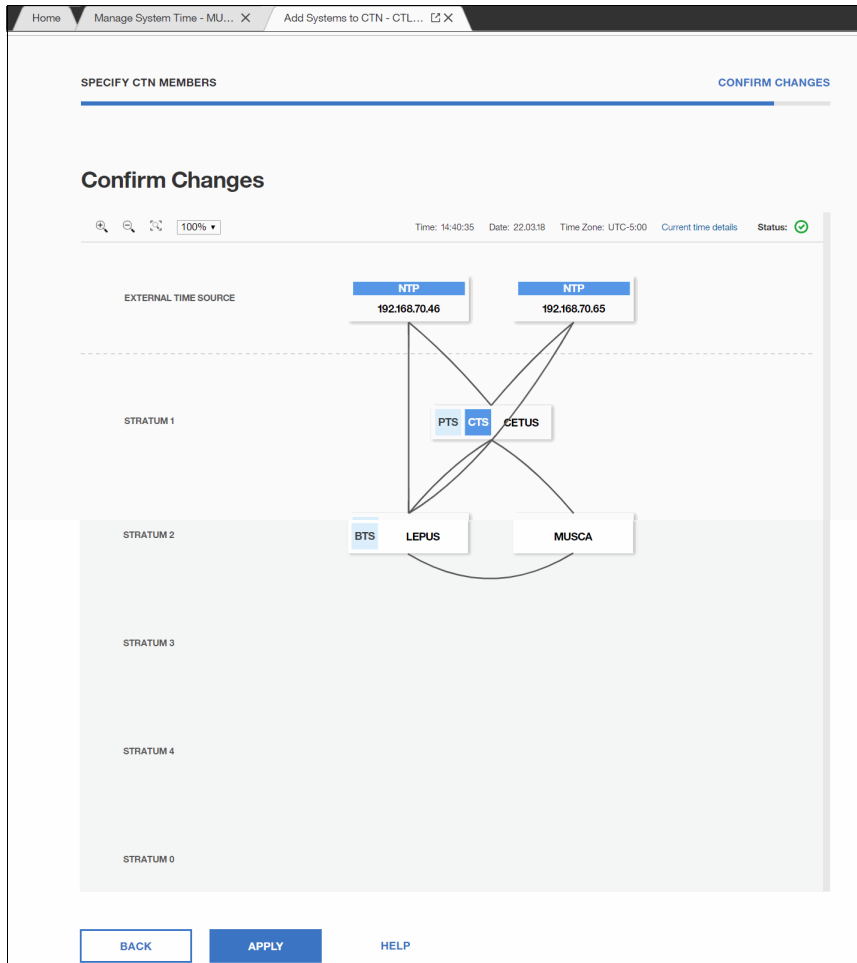

Figure 8-57 Confirm Changes
- The Confirm Changes window opens. In this case, MUSCA is added as a Stratum 2 server. Click **APPLY** to continue (see Figure 8-57).